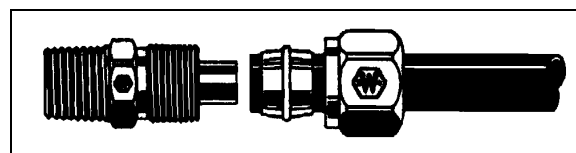

FIGURE 36: HOSE FITTING
**NTA-Type Plastic Tubing:** Hand tighten nut (Fig. 36). From that point, tighten using a wrench the number of turns indicated in the following chart.